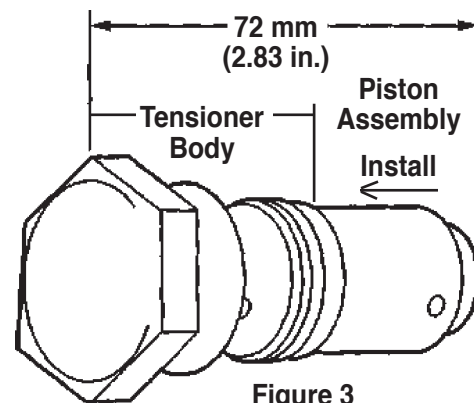

Figure 3
5. Install the compressed piston assembly back into the timing chain tensioner body until it stops at the bottom of the bore. See Figure 3. **Note: Do not compress the piston assembly against the bottom of the bore. This will activate the tensioner, which will then need to be reset.**